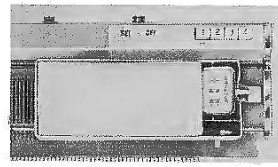

Fig. 32
a. The left end of the parts box has to be placed on the number "60" of the needle. (See Fig. 32)